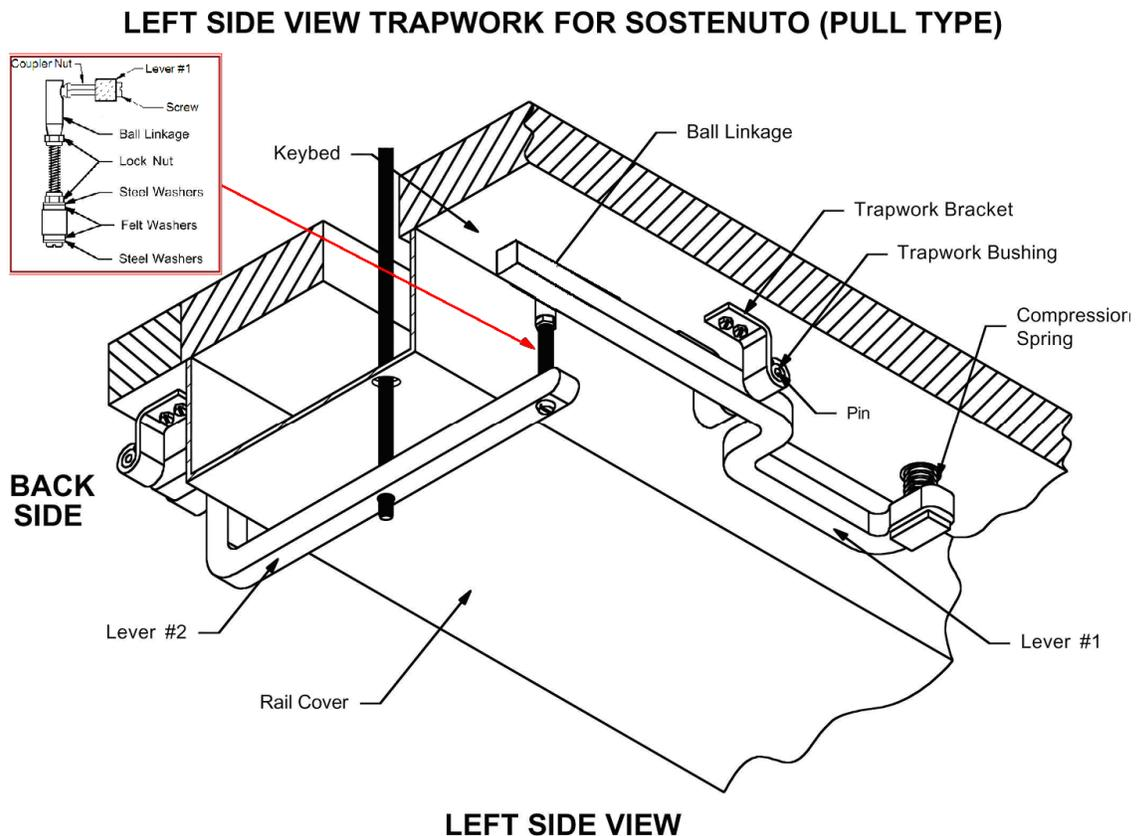

Figure 20
Determine the type of sostenuto action. In grand pianos there are two methods used to operate the sostenuto pedal. One method engages the sostenuto by pushing up under the sostenuto lever, called a "push" action. (See Fig. 17) The other method, pulls down a lever which engages the sostenuto, called a "pull" action. (See Fig. 20). Determine which type of sostenuto is on the piano and follow the instruction appropriate for your situation.
- A. **Mark ball linkage location.** Locate the sostenuto connection at the bass/tenor break. Place a 90 degree square across the keybed at the sostenuto location. Draw a line from the back of the keybed across the slot. This is the ball linkage location. Place the lyre on the piano. Hold lever #1, (See Fig. 20) under the sostenuto rod, parallel to the solenoid slot and mark the location for the mounting the ball linkage.
at that point. (See Fig. 20) Once this location is determined, mark this spot on the keybed and prepare to drill.